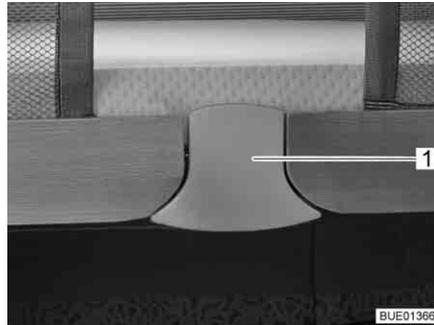
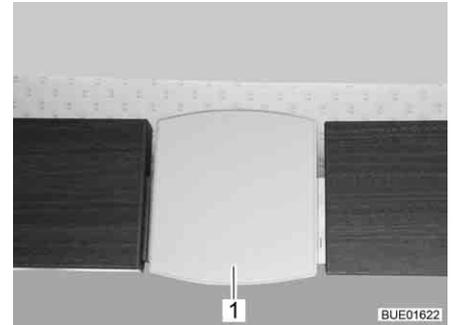

Fig. 134 Release point (Elegance)
Fig. 135 Release point (Viseo)
- Pull out the release plate (Fig. 134,1 or Fig. 135,1) at the bottom. The lock is released.